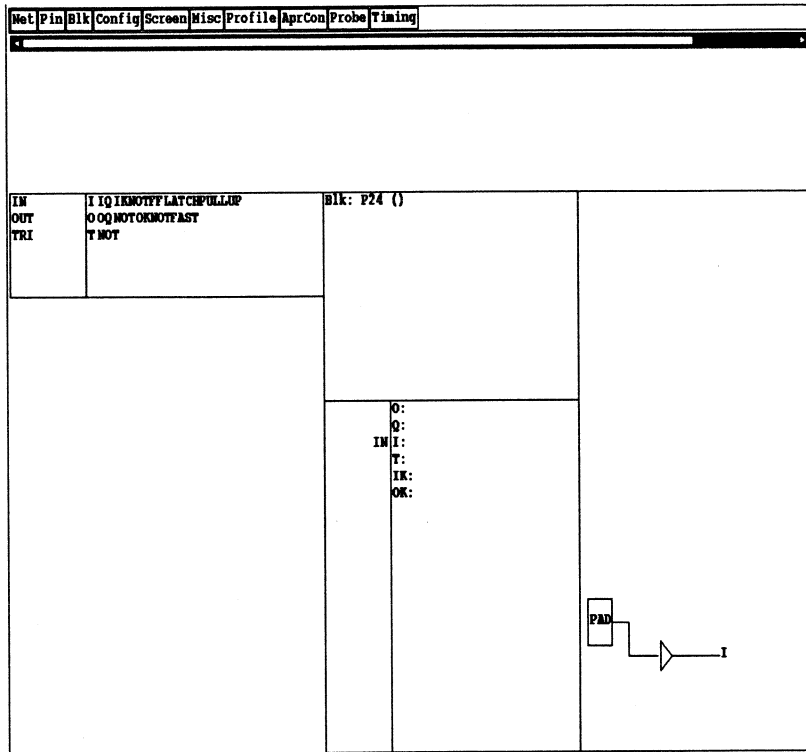

Figure 9-32 IOB Configured as an Input Pin
4. Make sure that block P24 resembles Figure 9-32 as follows: